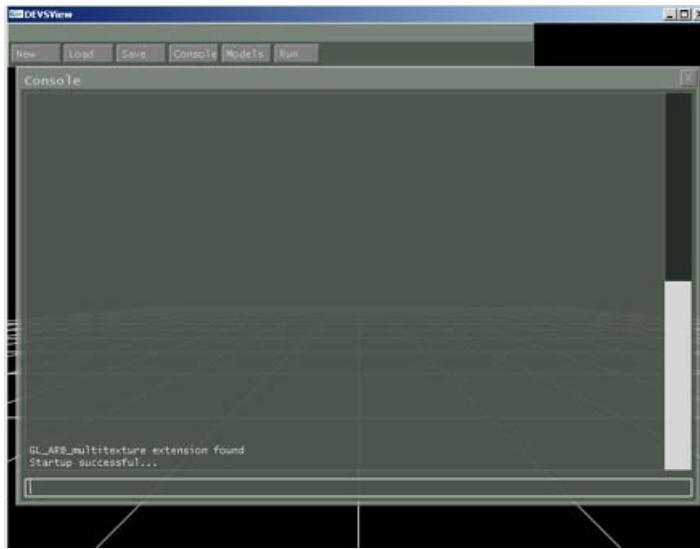

Figure 93: DEVS View Window.
- 2) Select any file within the navigator panel of Eclipse and click on the DEVS View button . The DEVS View program should open and look like the following (See Figure 93):